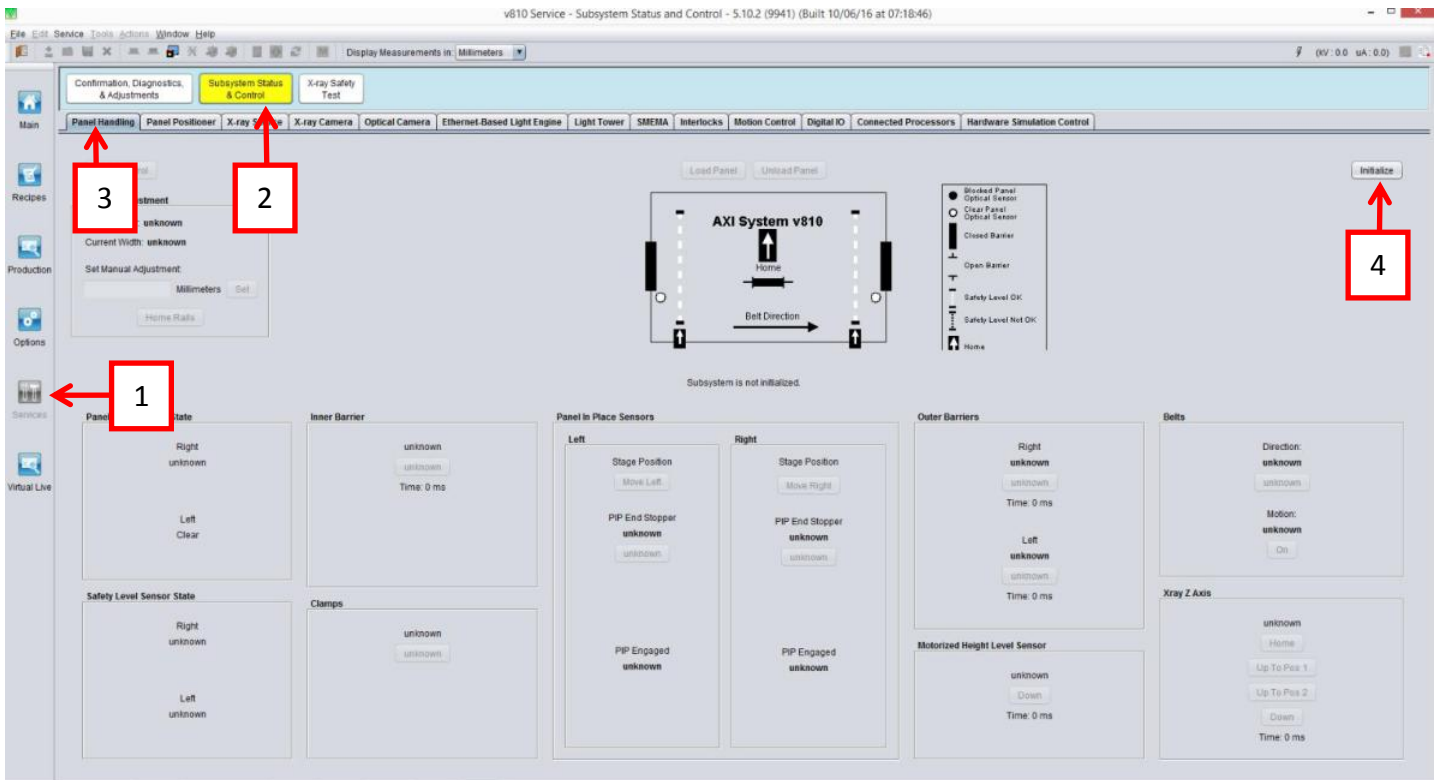

Figure 15 Panel Handling (Initialization)
- At V810 GUI, go to Services->Subsystem Status & Control->Panel Handling and click “Initialize” as shown in Figure 15